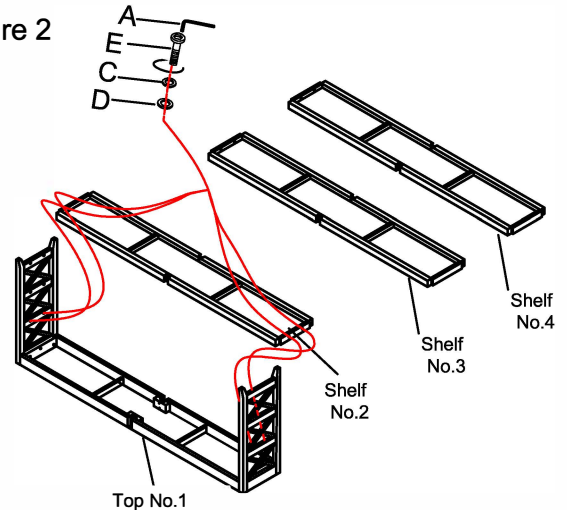

Figure 3
5. Attach two middle legs using Bolt (E), Lock Washer (C), Flat Washer (D) and tighten with Allen Wrench(A). As shown in Figure 3.